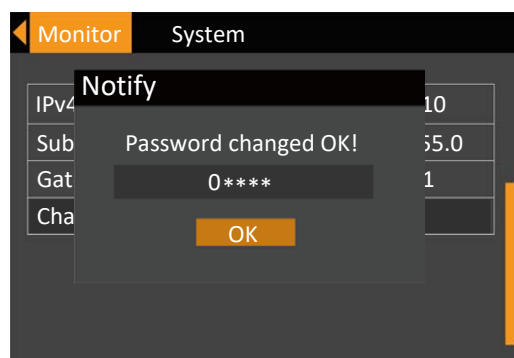

Figure 5-25 Password changed OK
6. After the confirmation, press the key and the system prompts that the password changing is successful, see Figure 5-25.